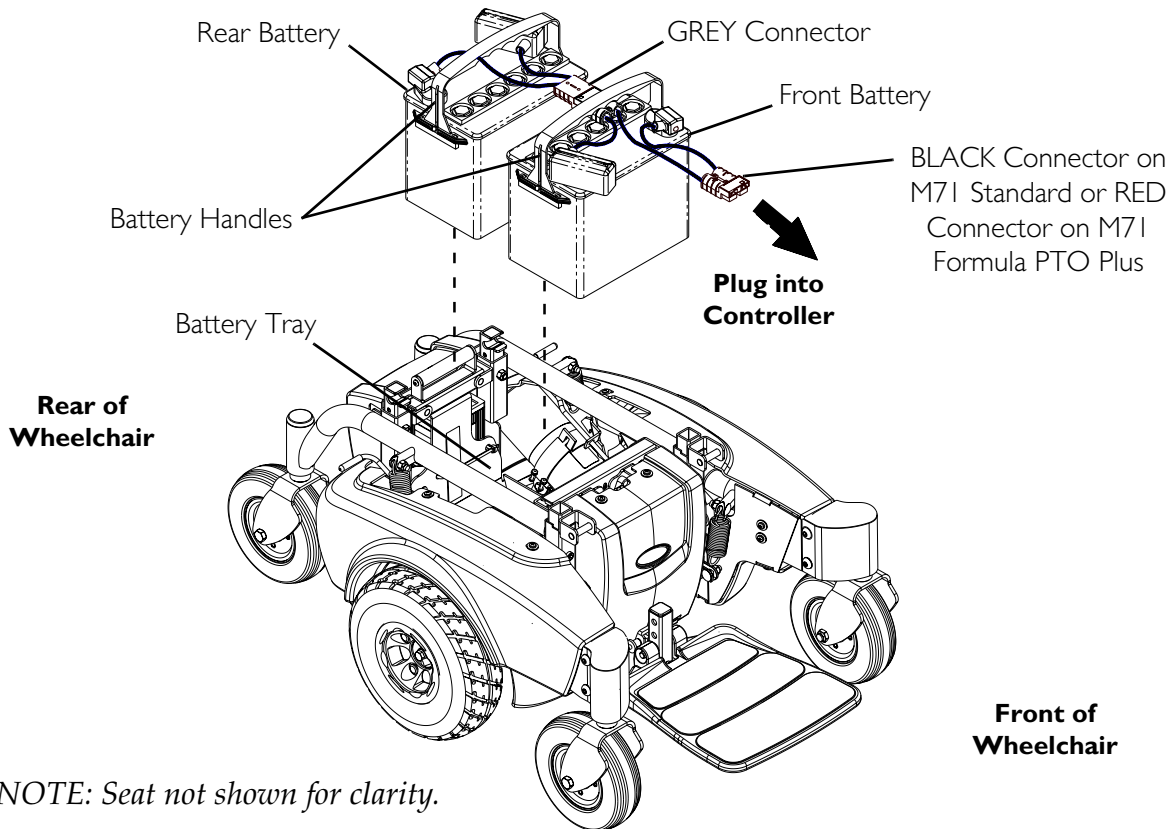

FIGURE 15.2 Removing/Installing Batteries from/into Battery Tray
NOTE: For this procedure, refer to FIGURE 15.2 on page 57.
2. Position front battery in rear of battery tray and slide forward into position (FIGURE 15.2).
3. Position rear battery in rear of battery tray (FIGURE 15.2).